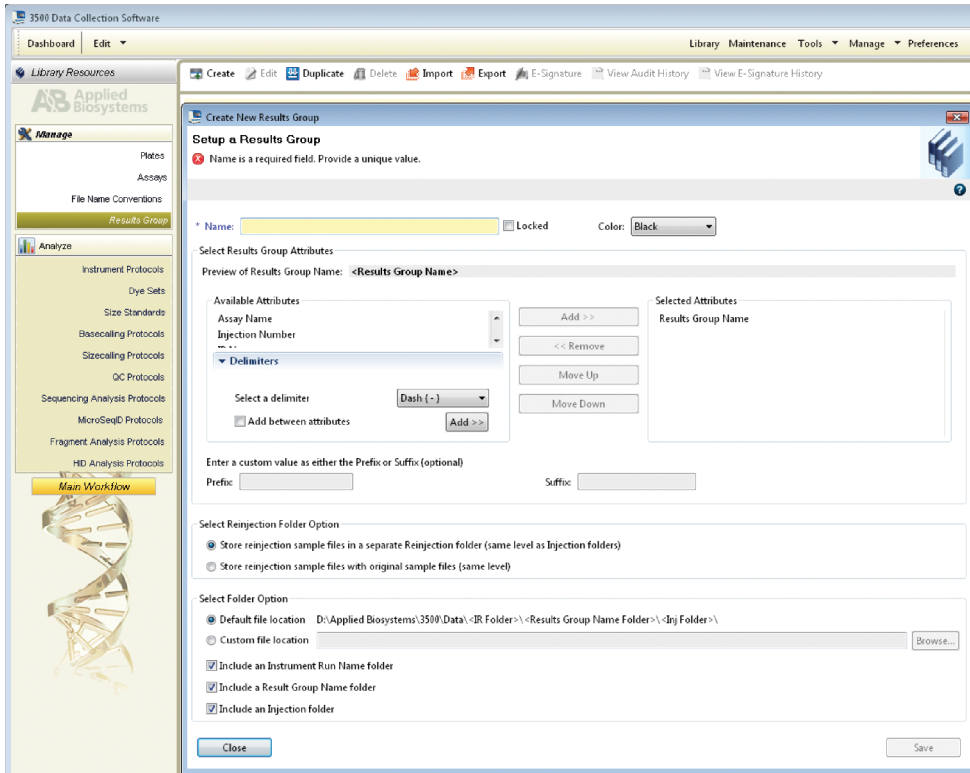

Figure 7. The 'Create New Results Group' window.
2.f. To create a new Results Group (Figure 7), navigate to the Library. Select **Results Group**, then select **Create**. Alternatively, a previously created Results Group can be used.